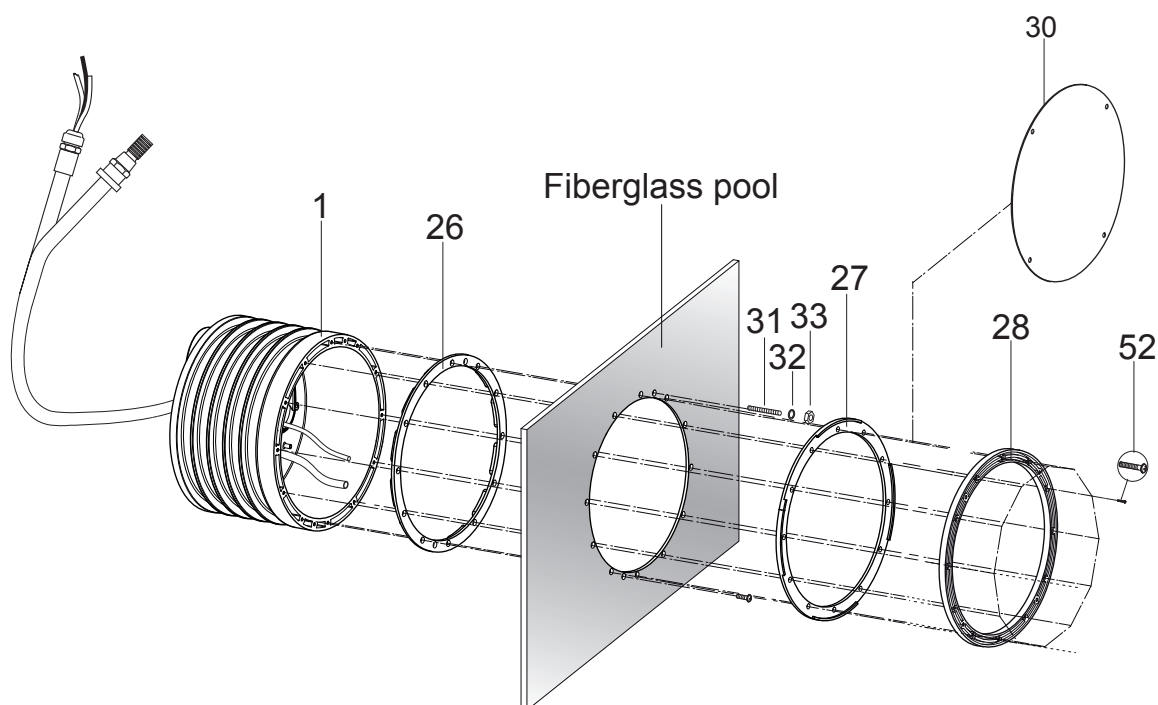

Figure 12
4. Align the clamping ring gasket (part# 27) on the inside of the pool wall as shown in Figures 12 and 13. Be sure the ribs on the outer edge of the gasket are facing away from the pool wall and are positioned as shown.
5. Install the twelve (12) M8 x 30 clamping ring screws (part# 52).